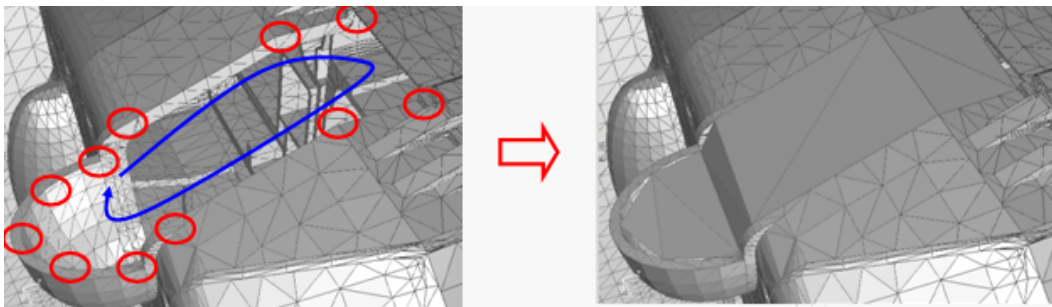

Figure 8.3.2: Hole Filling Using Nodes
- Fixing holes by selecting nodes (Figure 8.3.2).